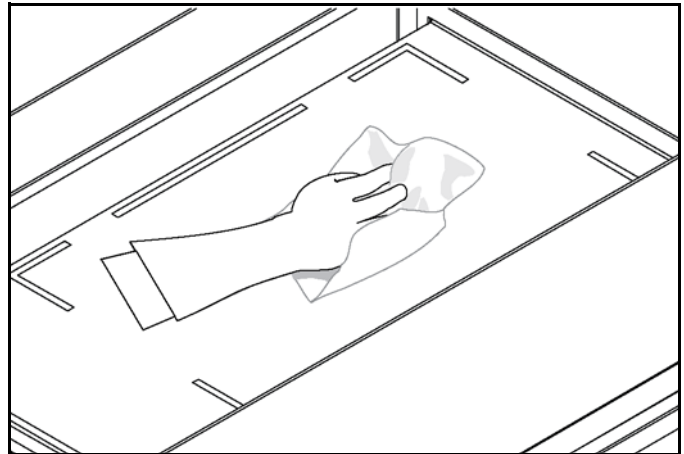

Figure-188
25. Thoroughly rinse both the upper and lower plates with clean, sanitizer-soaked grill cloths. Repeat until no residual Kay® QSR heat-activated grill & toaster cleaner remains. Clean the surrounding areas such as the hood, bullnose, and backsplash with clean, sanitizer-soaked grill cloths. Discard the cloths into the soiled towel pail after use. See Figure-188.